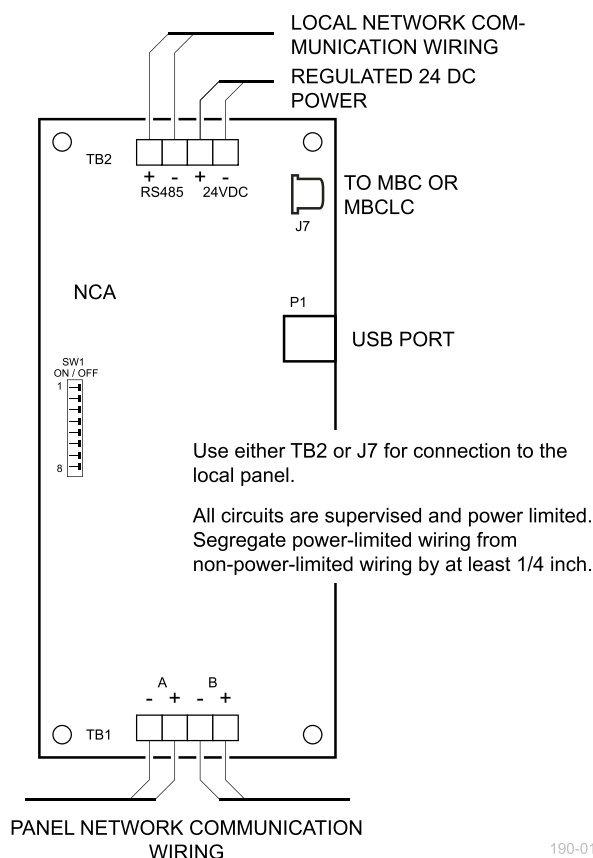

Figure 1: Wiring
1. Connect module power supply wiring to the 24VDC supply circuit. Connect RS485 communication wiring to the panel's communication circuit. See Figure 1.
3. Connect the panel network communications wiring (Figure 1).